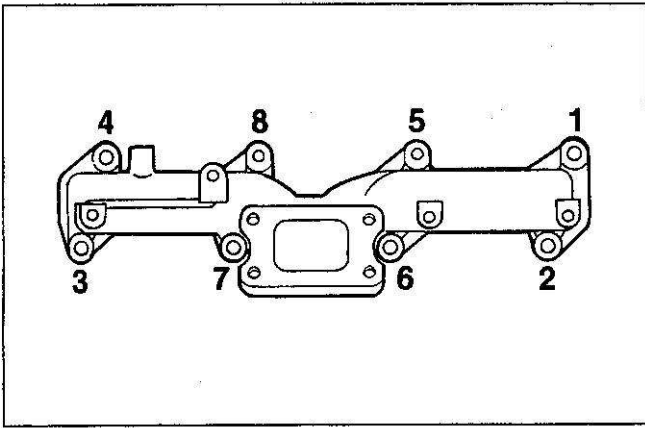

Figure 14. Exhaust Manifold Bolt Loosening Sequence
1. Turbocharger (19) as outlined previously in this section.
2. Heat shield (22).
3. Bolts (23), nuts (24) and washers. Loosen bolts as shown in figure 14.
4. Exhaust manifold (21).
5. Gaskets (24).